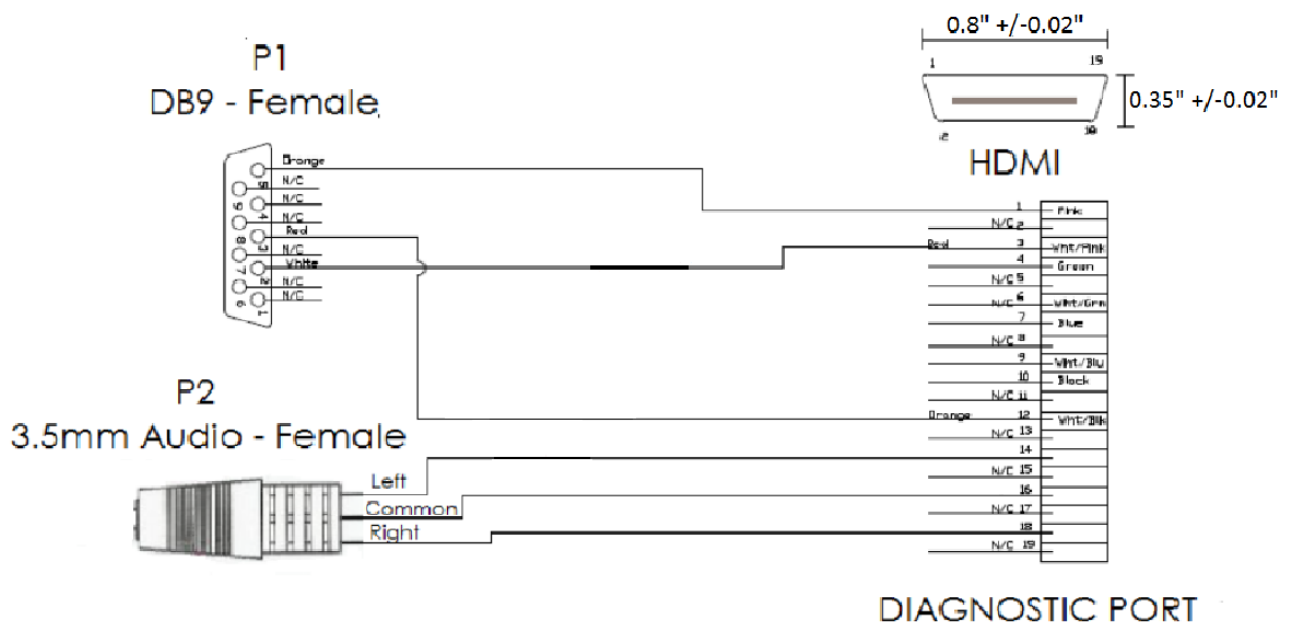

Figure 1: Nurse Call / EMR Communication Cable
The Nurse Call / EMR Communication Cable (Part No. 3100897) contains a 3 pin 3.5 mm Stereo Audio Jack (See P2 in Figure 1) for indicating an alarm condition on a hospital nurse call system and a DB9 female Data Jack for interfacing Electronic Medical Record capable technologies.
The cable's 3.5mm stereo jack supports "Normally Open" and/or "Normally Closed" Nurse Call system connections. The signals on the 3 connector contacts are (see P2 in Figure 1 and Figure 1A):
4.1 Figure 1: Nurse Call & EMR Cable Schematic
Remove the silicone plug in the oxygen sensor cover on the back of the Precision Flow[®] Hi-VNI and plug in the HDMI connector of 3100897 into the HDMI port of the Precision Flow[®] Hi-VNI. Connect the other end of the properly terminated cable to the hospital Nurse Call system. Refer to figures 1, 1A and 2 for circuit diagram and schematic reference.
The Precision Flow[®] Hi-VNI has an HDMI style connector on the back of the unit. The Vapotherm **Nurse Call / EMR Communication Cable (Part No. 3100897)** has an HDMI connector on one end and a DB9 Female RS-232 connector on the other end. This cable can be used to connect the PF Hi-VNI to standard RS-232 port on a EMR system. The pin out of this cable is shown in Figure 1
Connect the other end of the properly terminated cable to the hospital EMR System. Refer to figures 1 for circuit diagram and schematic reference.